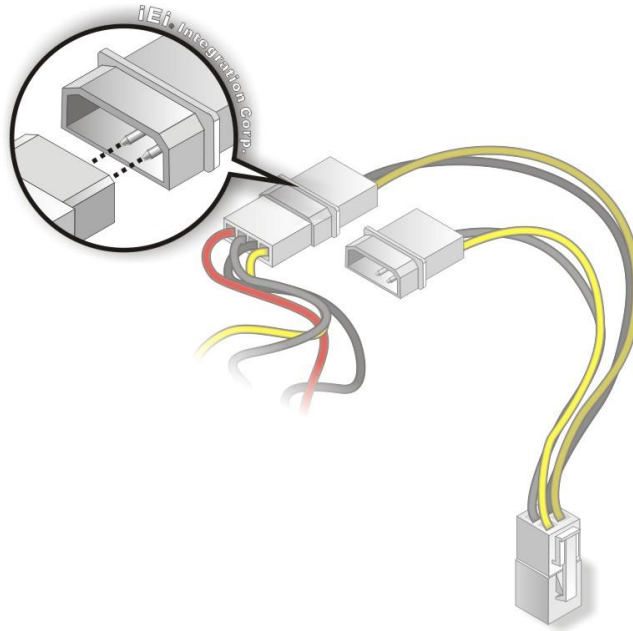

Figure 4-12: Connect Power Cable to Power Supply
Step 3: Connect power cable to power supply. Connect one of the 4-pin (1x4) Molex type power cable connectors to an AT power supply. See **Figure 4-12**